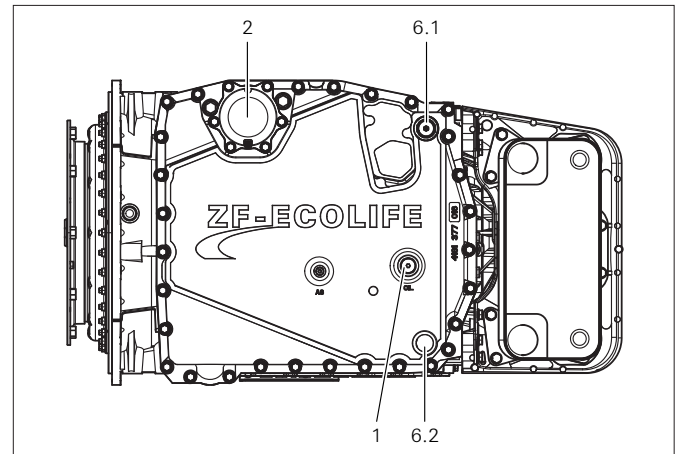

Fig. 1.10 Coaxial transmission with VRM special oil drain
- Screw in special screw plug (**6.1** or **6.2**, depending on installation position); (refer to Fig. 1.10).